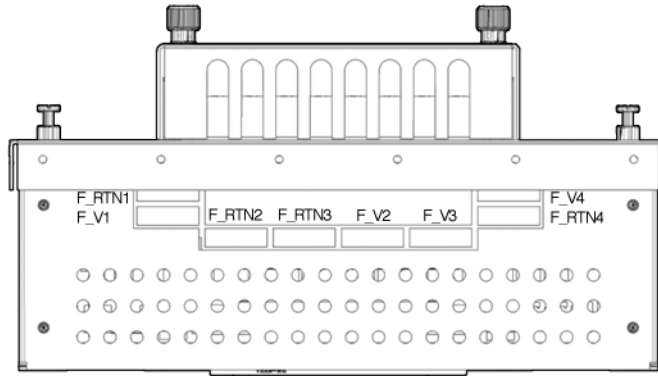

FIGURE 5-4 Fuses in the Power Entry Modules
FIGURE 5-4 shows the location of the fuses in the power entry modules.
3. Locate the fuse that you want to remove from the power entry module (FIGURE 5-4).
1. Install the replacement fuse in the appropriate location in the power entry module (FIGURE 5-4).